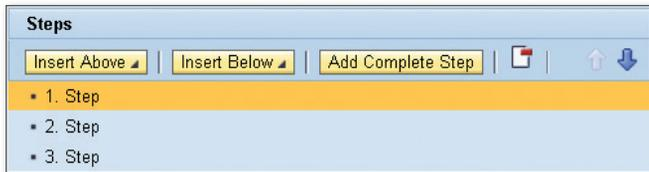

Figure 7.12 Selecting the First Step
1. In the initial framework you have generated for your guided procedure, select the step before or after which you want to insert a step made up of substeps. In Figure 7.12, the first step was selected.